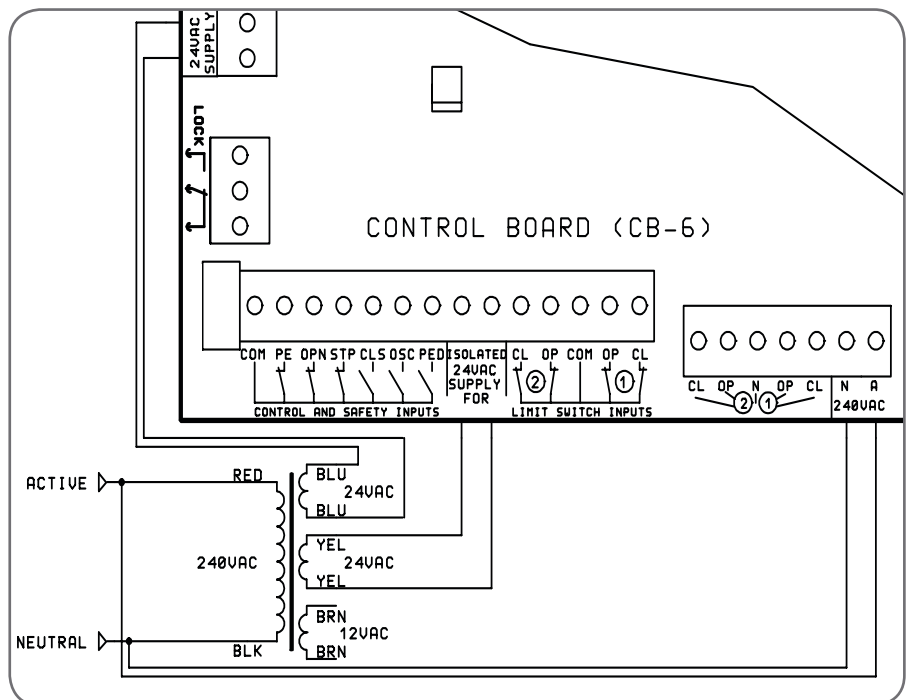

Fig E.1
The control board has two 24VAC supply inputs. The control supply (18) is used to power the control circuits while the 24VAC supply (8) is used to power the control, safety and limit switch inputs as well as the motor control relays. The two halves of the control board are electrically isolated from each other so that any electrical "noise" picked up by the wiring associated with the control, safety or limit switch inputs is prevented from interfering with the control circuits. **Fig E.1** shows how to connect the two 24VAC transformer outputs to the control board. The 240VAC input is used to power the motors connected to the control board. If a lower voltage motor supply is required then it can be connected to the 240VAC A and N terminals instead. The 12VAC transformer output is provided to power an electric lock or other devices (if required).